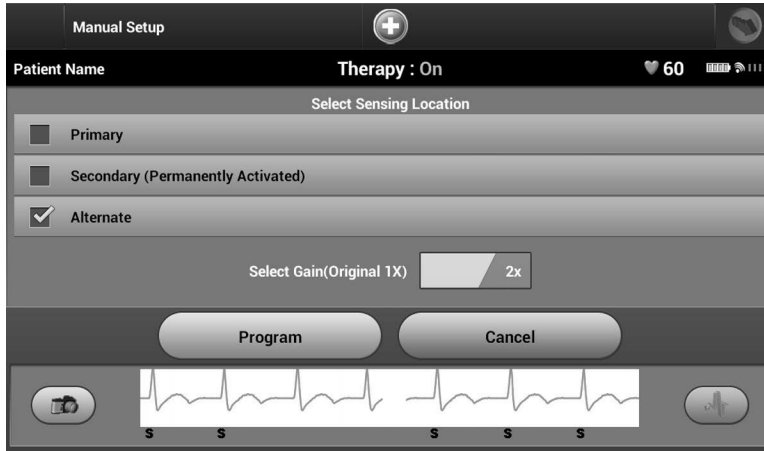

Figure 52: *Manual Setup screen with sensing vector and gain options*
3. Select Continue to proceed or select Test to retry. The sensing configuration can be evaluated by temporarily activating any of the vectors or gain settings that are present on the Manual Setup screen (Figure 52). The Live S-ECG and markers will reflect the temporary selections for evaluation purposes.
4. There are three available sensing vectors that can be manually selected from the Manual Setup screen (Figure 52):
The gain setting adjusts the sensed S-ECG signal sensitivity. It may be manually selected with the Select Gain slider switch on the Manual Setup screen (Figure 52).